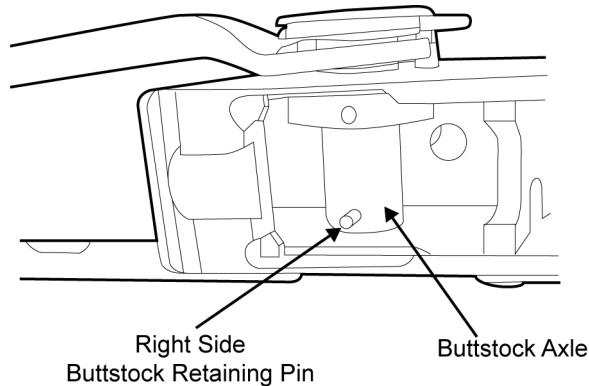

Figure 31. Removing the Right Side Buttstock Retaining Pin.
d. Remove the right side buttstock retaining pin from the buttstock axle. Needle nose pliers may be necessary. Refer to Figure 31.